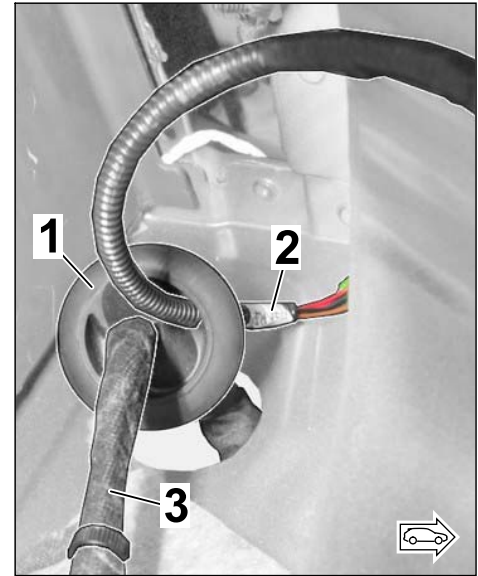

Figure 22
- Guide the new branch for the exhaust flap (left/right) through the neck of the grommet (see also 3.3.6) **OR** through another hole in the grommet collar (\Rightarrow *Figure 22*) **CAREFULLY** to the underside of the grommet.